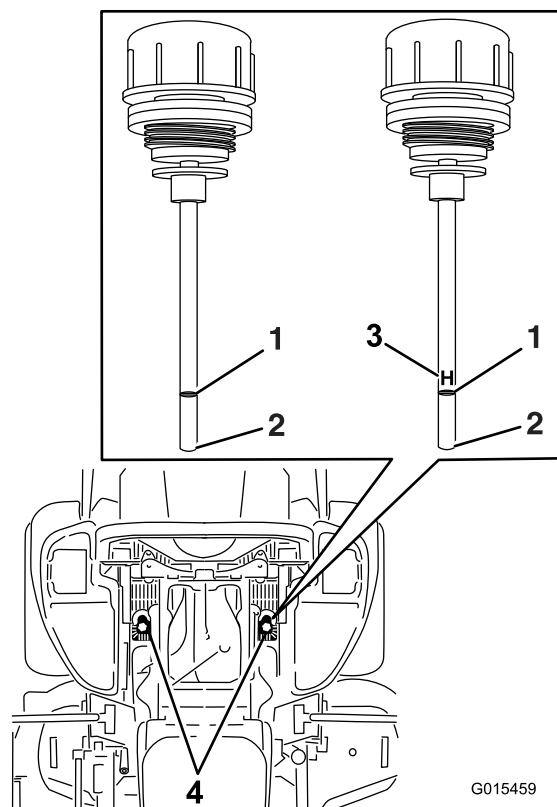

Figure 84
6. Clean the area around the dipsticks of hydraulic system reservoirs (Figure 84).
7. Remove one dipstick from the hydraulic reservoir (Figure 84).
9. Remove the dipstick and look at the end (Figure 84). If the oil level is at the add mark, slowly pour only enough oil into the hydraulic reservoir to raise the level to the full or H line.